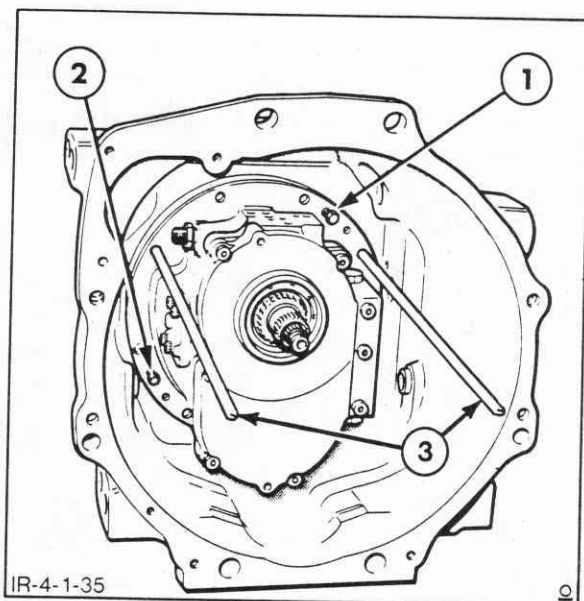

Figure 4-35
5. Remove the distributor housing retaining bolts and install two aligning rods (OTC-FNH00224) to protect the shaft seals. Obtain two M8 (1.5 thread) jacking bolts, approximately 1.25" (30 mm) long. Screw the bolts into the housing as shown in Figure 4-35, then continue to tighten until the distributor housing is freed from the transmission case. Use the aligning rods to help support the weight. Lift the housing from the transmission and remove the jacking bolts.